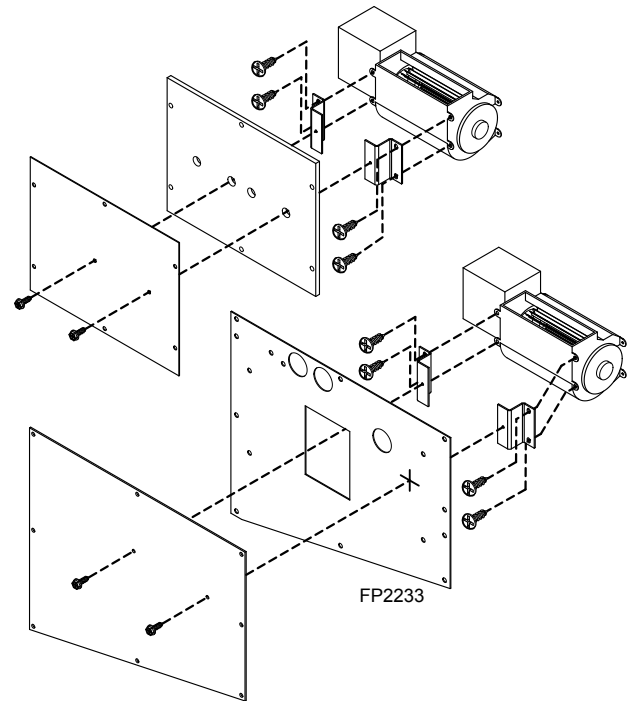

Figure 33 - Attach Blowers to Brackets
8. Two screws are already mounted to each cover which would be utilized to mount the blower to the cover. Unfasten the two screws and mount the blower bracket assemblies. *Figure 33*